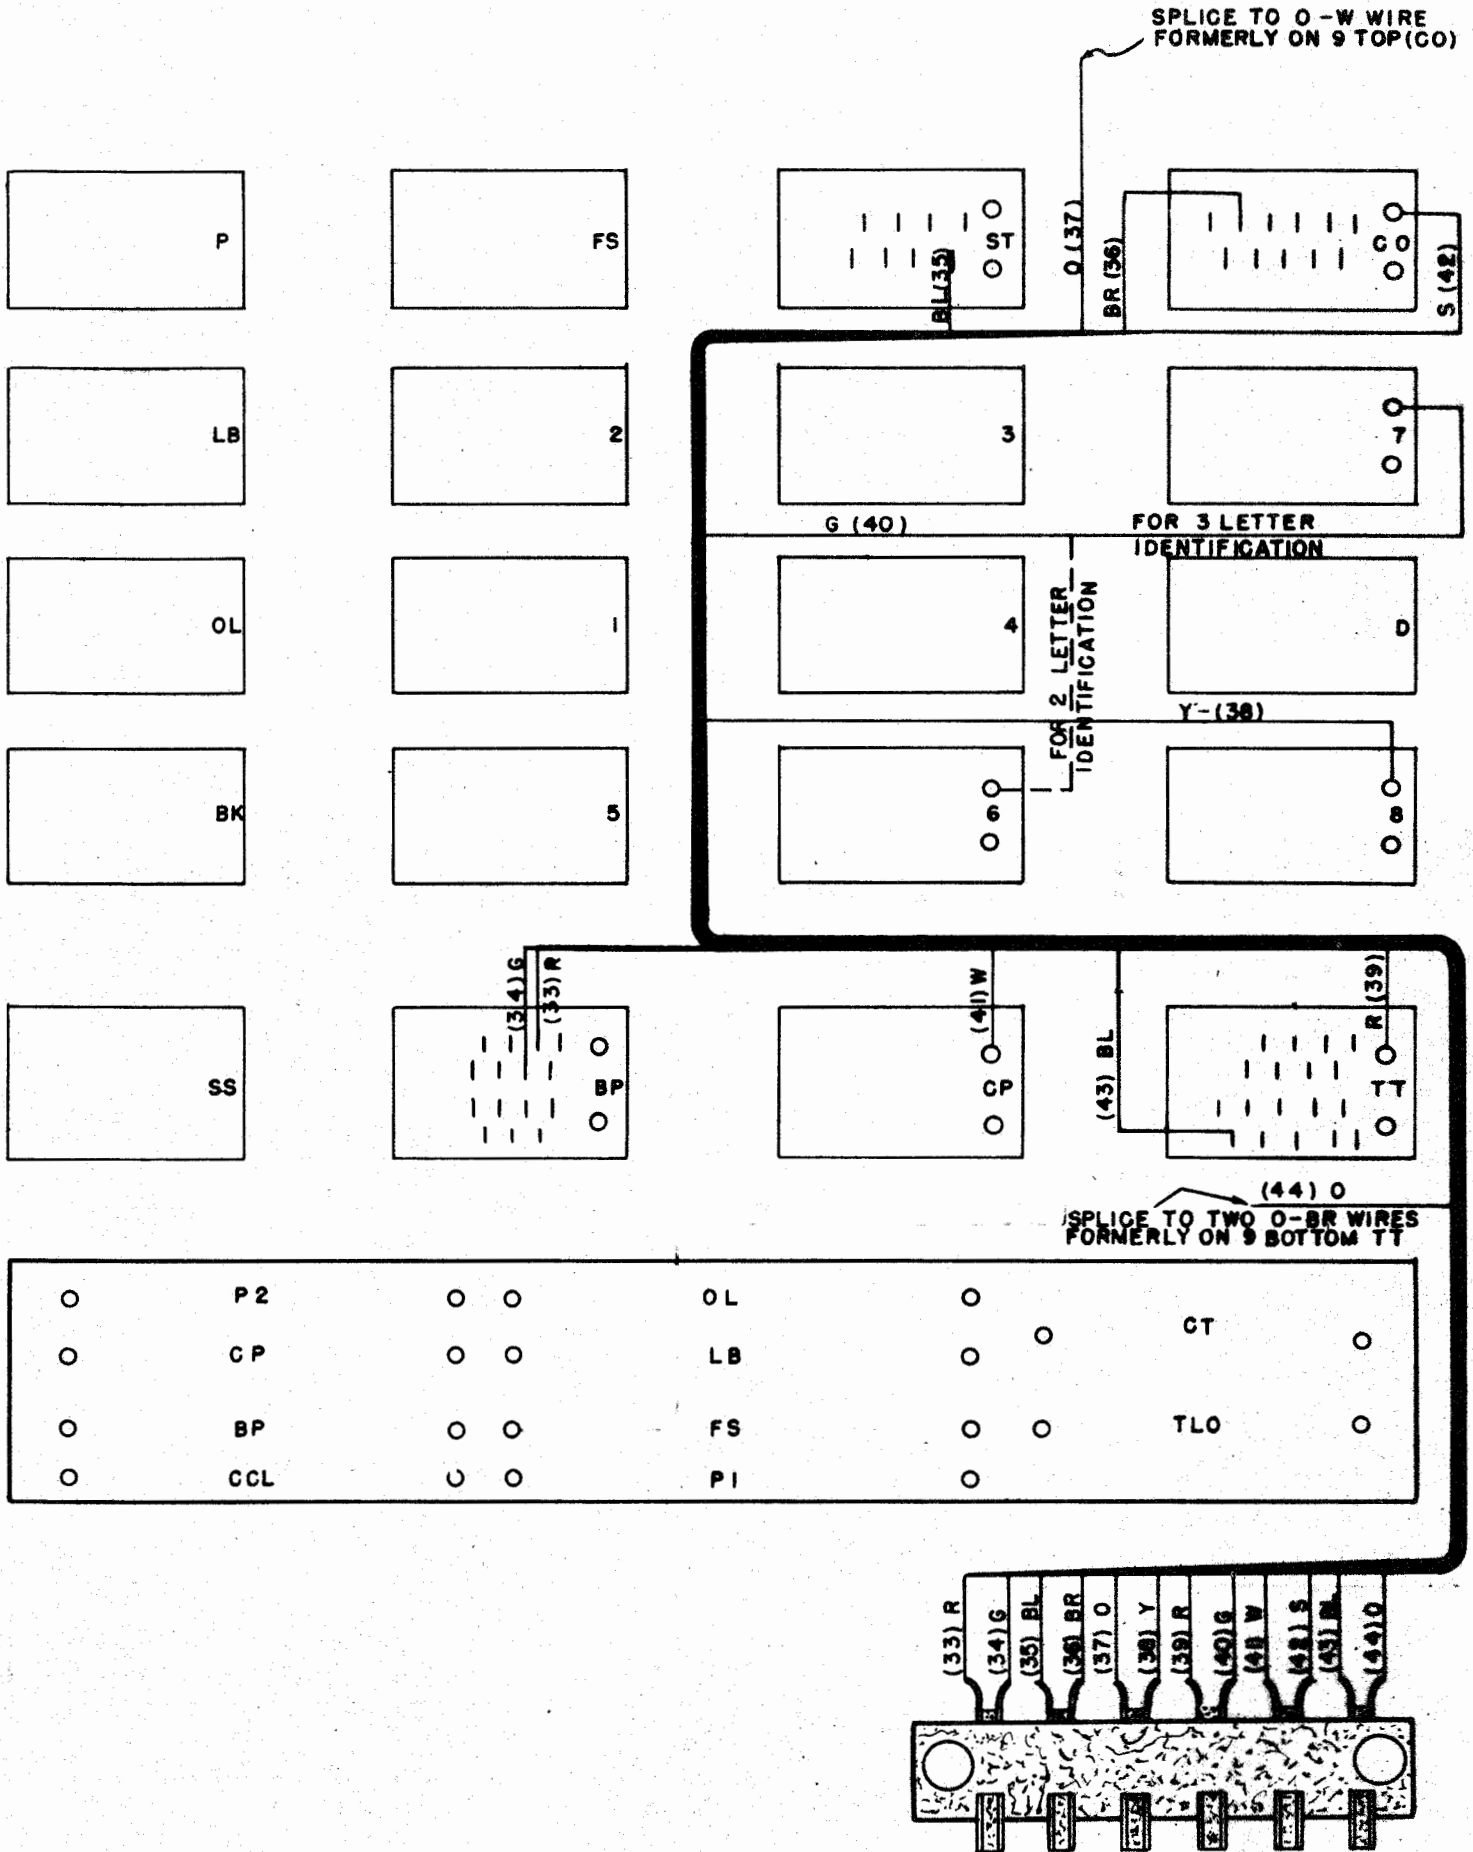

FIGURE 2
- (9) Remove the slip connection block assembly from the ASID and solder the wires, as formed, to the 113170 (32 point) block as indicated in Paragraph 8.
- (10) Place the 115378 cable (furnished) between the cable connected to the 32 point slip connection block and the base, and extend it along the right edge (viewed from the terminal side) of the ASID. Solder the wires to the (12 point) slip connection block as follows: (See Figure 2. Use test lamp.)
- #33 Red to 3T (BP)
- #34 Green to 4T (BP)
- #35 Blue to 2 (ST)
- #37 Orange spliced to O=W wire disconnected from 9 (CO)
- #36 Brown to 9 (CO)
- #38 Yellow to 2T (8)
- #39 Red to 2T (TT)
- #41 White to TC (CP)
- #42 Slate to TC (CO)
- #44 Orange to C ER wire (2 wires) disconnected from 9B (TT)
- #43 Blue to 9B (TT)
- (11) Dress the wire with relation to the terminals and remount the slip connection assembly in place on the ASID.
- (12) Solder the remaining wires of the 115378 cable to the relay terminals as indicated in Paragraph 10. See Figure 2.